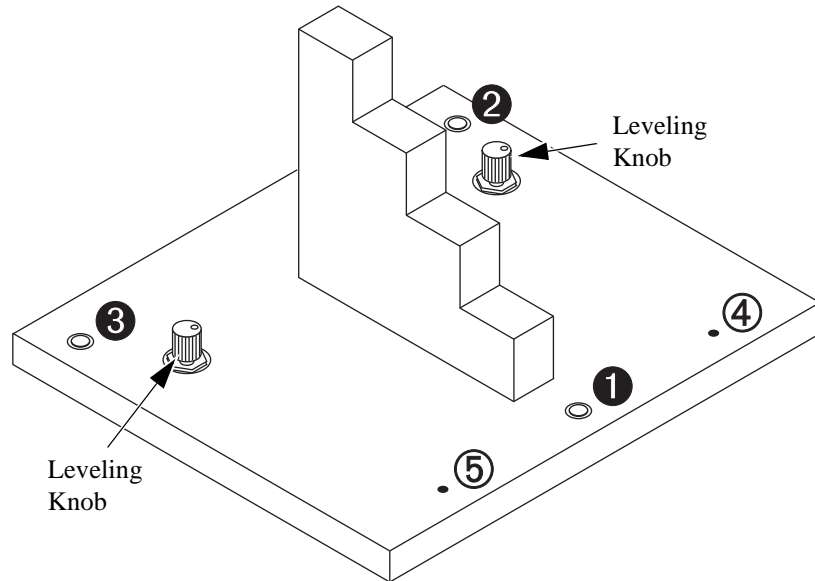

Figure A-3 Leveling the Step Gage
- a.** Use the joystick to drive the stages so focus point **1** (see Figure A-3) appears in the Video window.
- e.** Drive the stages so focus point **2** (see Figure A-3) appears in the Video window
- h. Drive the stages so focus point ❸ (see Figure A-3) appears in the Video window.
- i. Perform an autofocus on focus point ❸. Again, the Z value in the DRO window should be zero or very close to zero.
- If the Z value for focus point ❸ is within ± 0.002 mm (0.00008") of the Z value for focus point ❷, no adjustment is required; go to Step 11.
- If the Z value is not within ± 0.002 mm (0.00008"), use the leveling knob adjacent to focus point ❸ to level the step gage; continue with the next step.
13. Drive the stages so the left through hole (④ in Figure A-3) appears in the Video window. Then position the Crosshair Finder on the right edge of the hole (3 o'clock position).
15. Drive the stages so the right through hole (⑤ in Figure A-3) appears in the Video window. Then position the Crosshair Finder on the right edge of the hole (3 o'clock position).